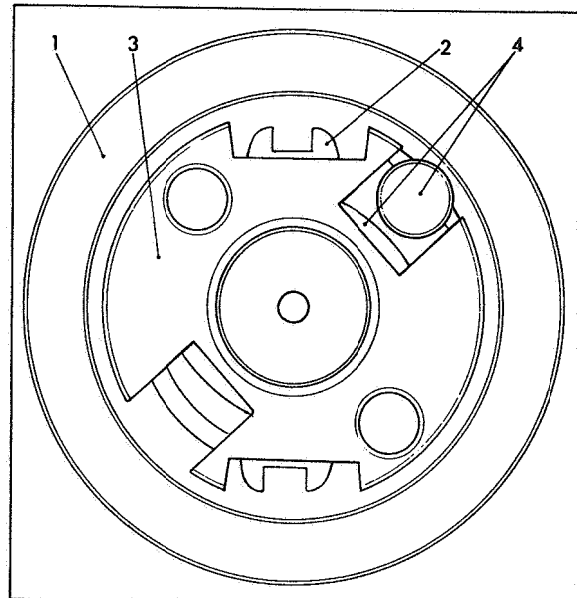

Fig 18 Roller & shoe assemblies
Position hydraulic head (1) on bench with machined surfaces uppermost as viewed from top in Fig 18. Position bottom adjusting plate (2) on hydraulic head with its chamfered edges uppermost. Insert distributor rotor (3) and line up the guide slots on the bottom adjusting plate with the tapered end cut-outs on the rotor head as illustrated.